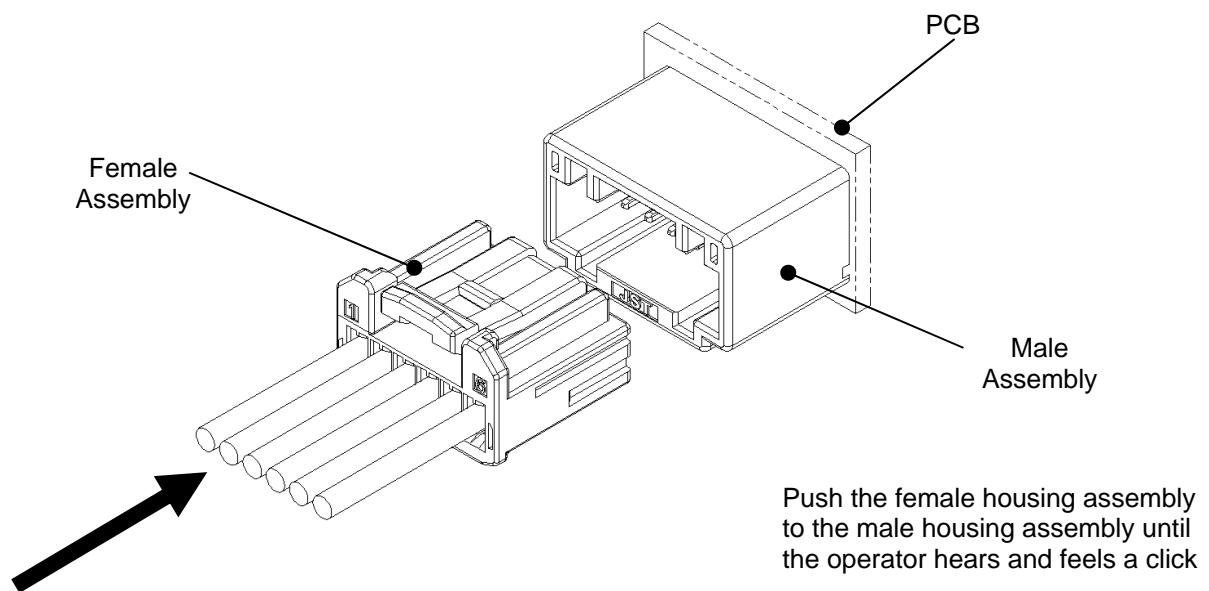

Figure 27. Orientation of the Male and Female Assemblies for Mating (e.g. 6 positions)
- c) Orientate the female housing assembly to the proper direction and mate with the male housing assembly. There is no need to release the housing lock lever for mating. See Figure 27.